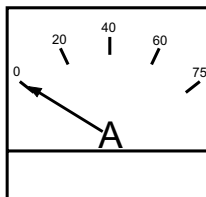

Figure 47. Ammeter (No Load)
11. The ammeter (Figure 47) will indicate zero amps with no load applied. When a load is applied, this meter will indicate the amount of current that the load is drawing from the generator's alternator.